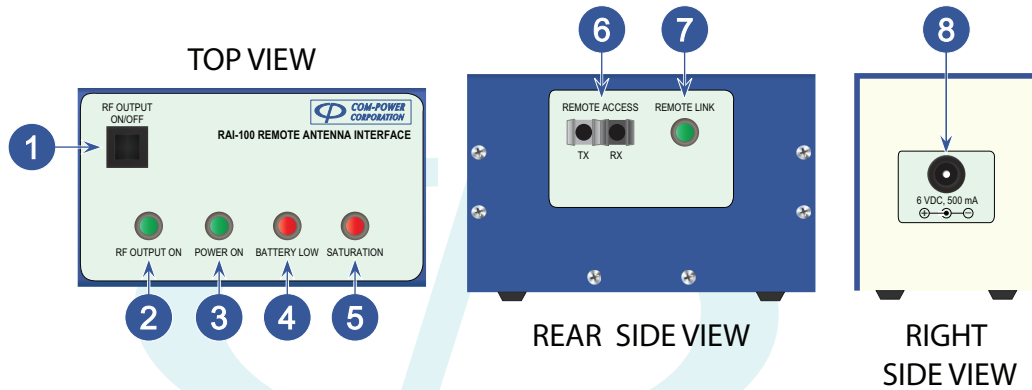

FIGURE 4 - RAI-100 Connections/Controls Diagram
- 2) INSERTION LOSS MEASUREMENTS **(I)** - Without changing any equipment settings, and with the equipment set up as shown in Figure 4, measure and record the signal level (*in dBμV*) at the same frequencies used in Step 1.